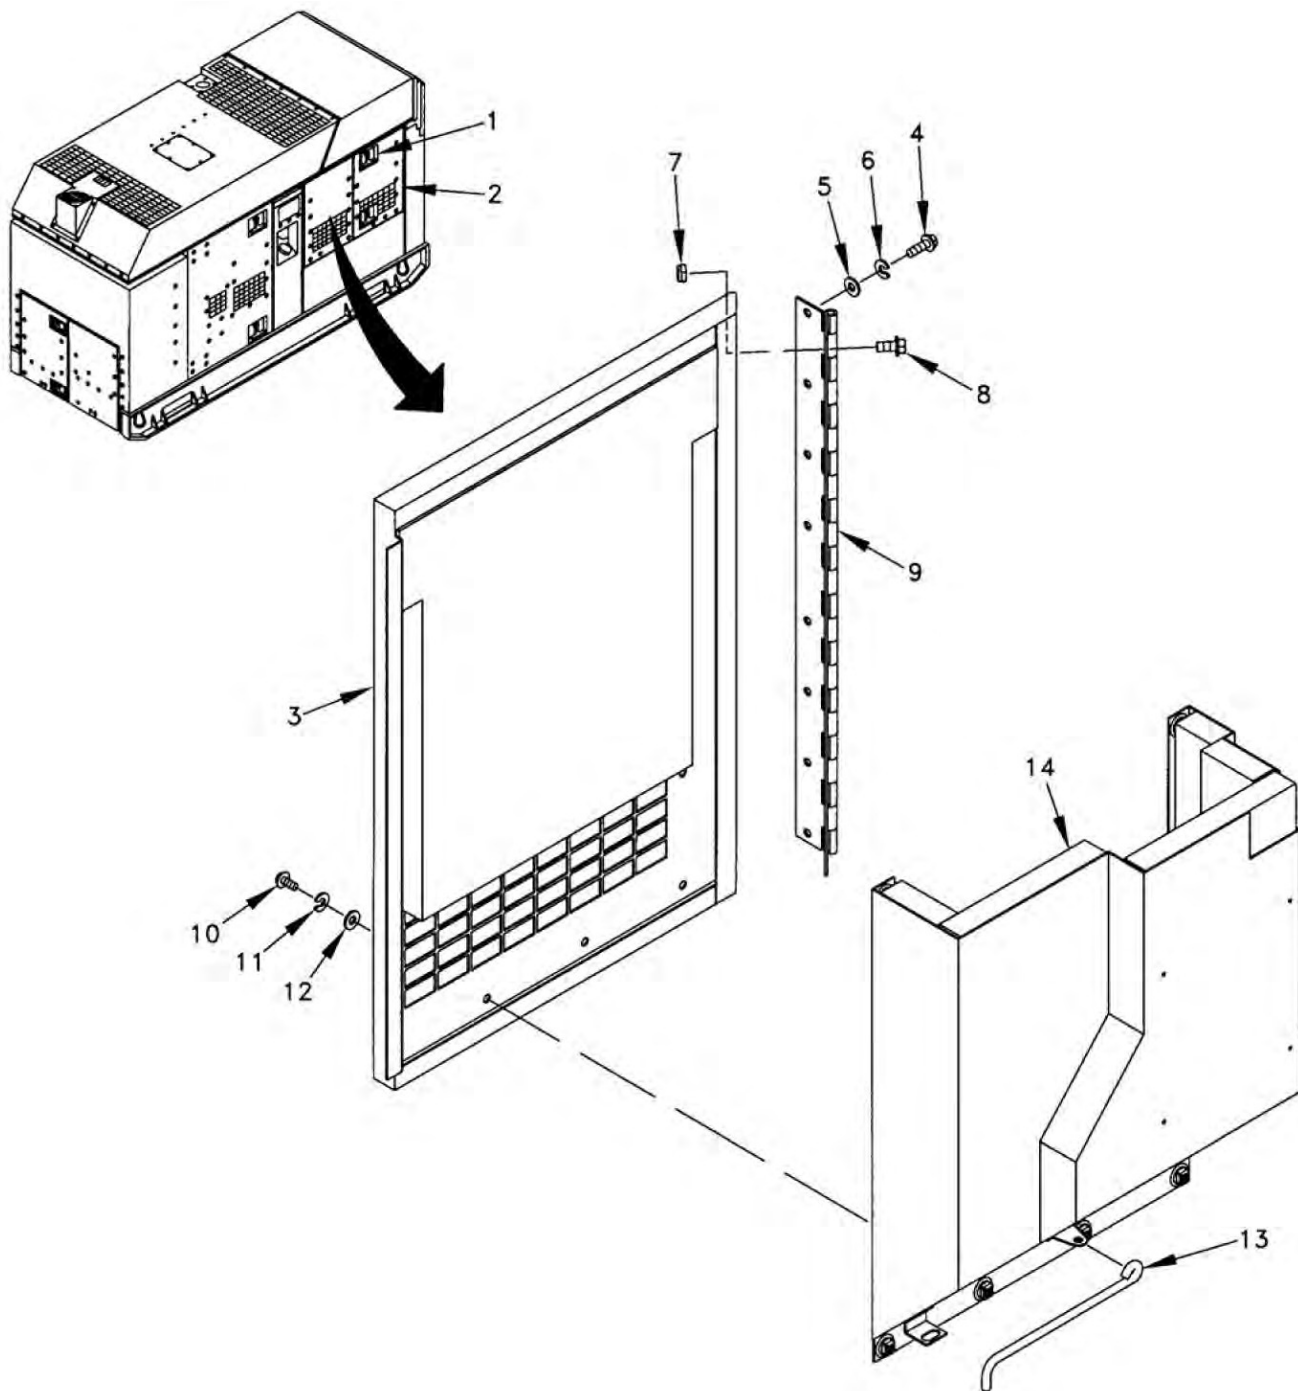

Figure 1. Left Rear Door Assembly.
1. Turn two latches (Figure 1, Item 1) and open left rear door assembly (latch) (Figure 1, Item 2) and left rear door assembly (Figure 1, Item 3).
2. Remove eight screws (Figure 1, Item 4), washers (Figure 1, Item 5), lock washers (Figure 1, Item 6), and left rear door assembly and hinge (Figure 1, Item 3).
1. Remove eight locknuts (Figure 1, Item 7), screws (Figure 1, Item 8), and hinge (Figure 1, Item 9).
2. Remove twelve screws (Figure 1, Item 10), lock washers (Figure 1, Item 11), washers (Figure 1, Item 12), door holding rod (Figure 1, Item 13), and duct (Figure 1, Item 14).
3. Install duct (Figure 1, Item 14) and door holding rod (Figure 1, Item 13), and secure with twelve washers (Figure 1, Item 12), lock washers (Figure 1, Item 11), and screws (Figure 1, Item 10).
4. Install hinge (Figure 1, Item 9) and secure with eight screws (Figure 1, Item 8) and locknuts (Figure 1, Item 7).
1. Install left rear door assembly and hinge (Figure 1, Item 3) and secure with eight lock washers (Figure 1, Item 6), washers (Figure 1, Item 5), and screws (Figure 1, Item 4).
2. Close left rear door assembly (3) and left rear door assembly (latch) (Figure 1, Item 2) and secure by rotating two latches (Figure 1, Item 1)